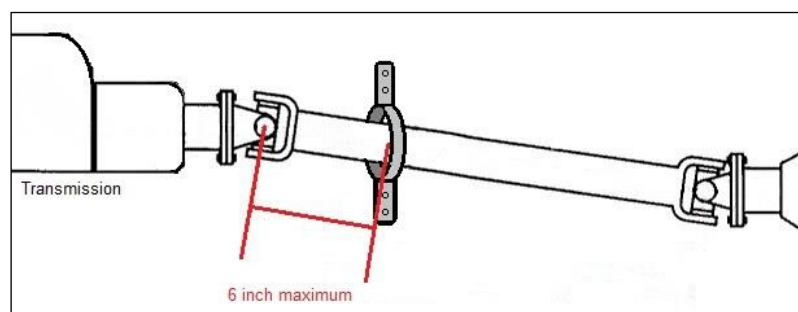

Figure 21
- A. All vehicles must have a driveshaft retaining loop mounted within 6 inches of the forward most universal joint and be securely attached to a unibody or frame structure as in Figure 21.